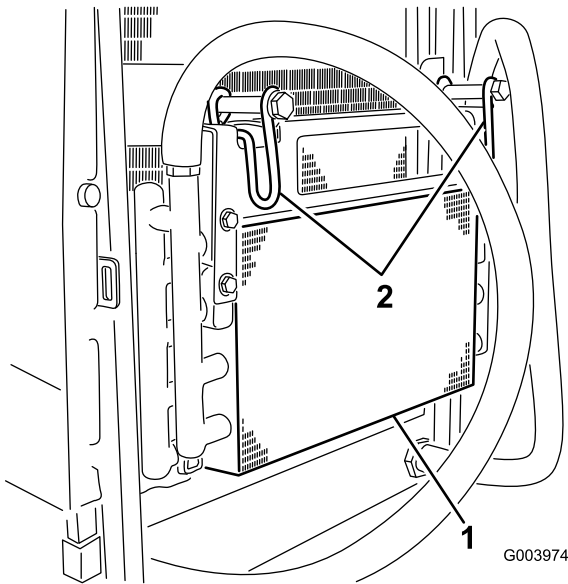

Figure 66
5. Pivot the latches inward to release the oil cooler (Figure 66).